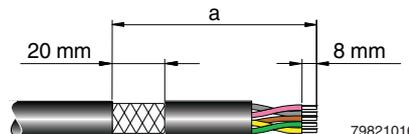

Fig. 7-8 Connecting the shielded cable
- Strip approximately 20 mm off the outer sheath of the cable at the required distance from the end of the cable (a in Fig. 7-8). The necessary distance a depends on the distance to the busbar.